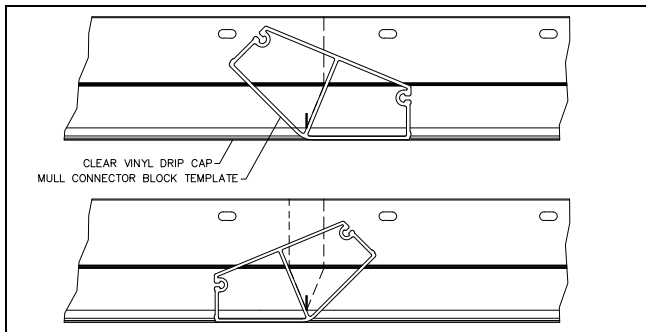

Figure 12
3. Place the center member of template on the drip cap at mark. While keeping the mark and center member aligned, hold one side of the template along the clear vinyl edge and scribe along the center member on beige portion of the drip cap. Next pivot the opposite side of template along clear vinyl edge of drip cap and scribe along the center member. From the point at which each angled mark meets the nailing fin portion scribe lines straight across the nailing fin (this line should be perpendicular to the edge of the drip cap). See Figure 12.